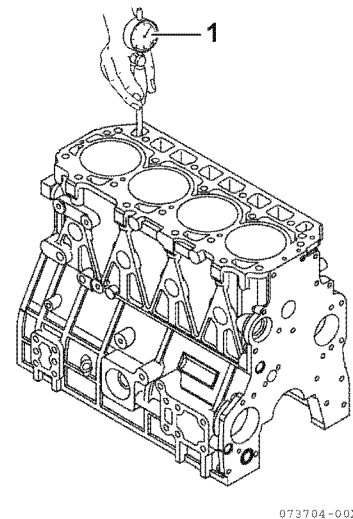

Figure 6-82
3. From the head side of the below illustration, use the cylinder gauge (1, **Figure 6-82**) to measure the tappet bore. Limit values are noted *Tappet* on page 6-13.